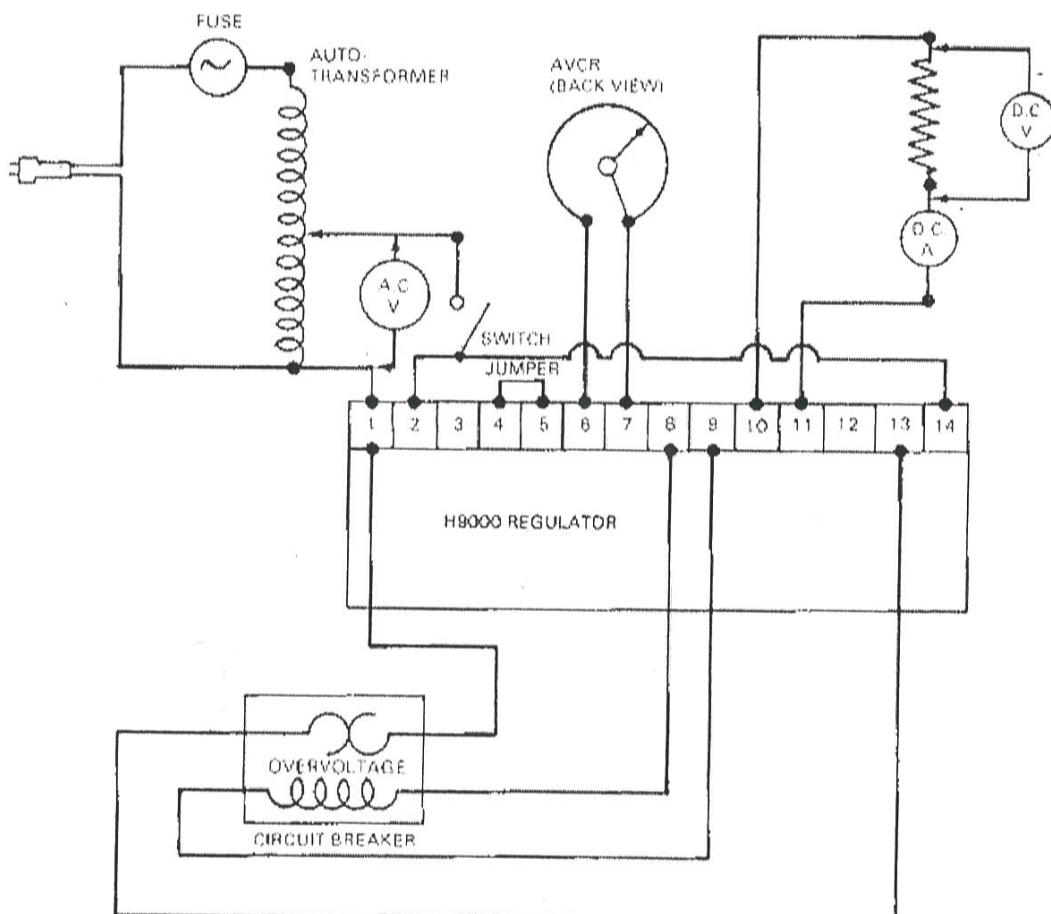

Figure 13
1. Tests 7 to 11 are to be conducted using the components and circuit of Figure 13.